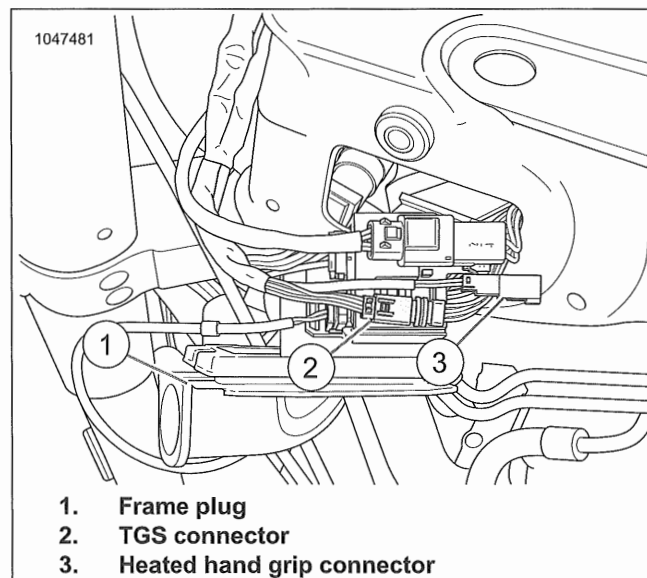

Figure 6-29. TGS Connector
1. See Figure 6-29. Disconnect TGS (Twist grip sensor) connector (2)
3. See Figure 6-29 Connect TGS connector (2).